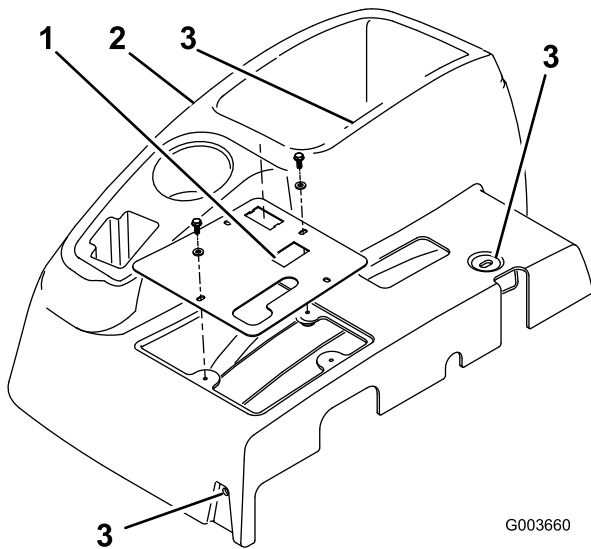

Figure 1
2. Remove the 4 washers and bolts mounting the control panel to the console (Figure 1). Unplug the wire from the hour meter. Remove the control panel (Fig. 1).
3. Remove the 3 bolts securing the console to the frame (Figure 1). Remove the console by gently lifting the bottom edge of the console around the support bracket and sliding it up beyond the brake handle.